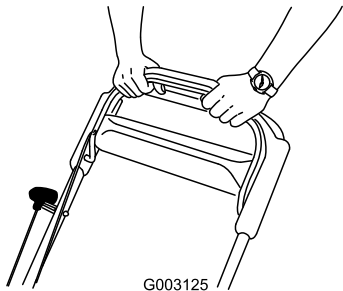

Figure 22
3. Hold the blade control bar against the handle (Figure 22).